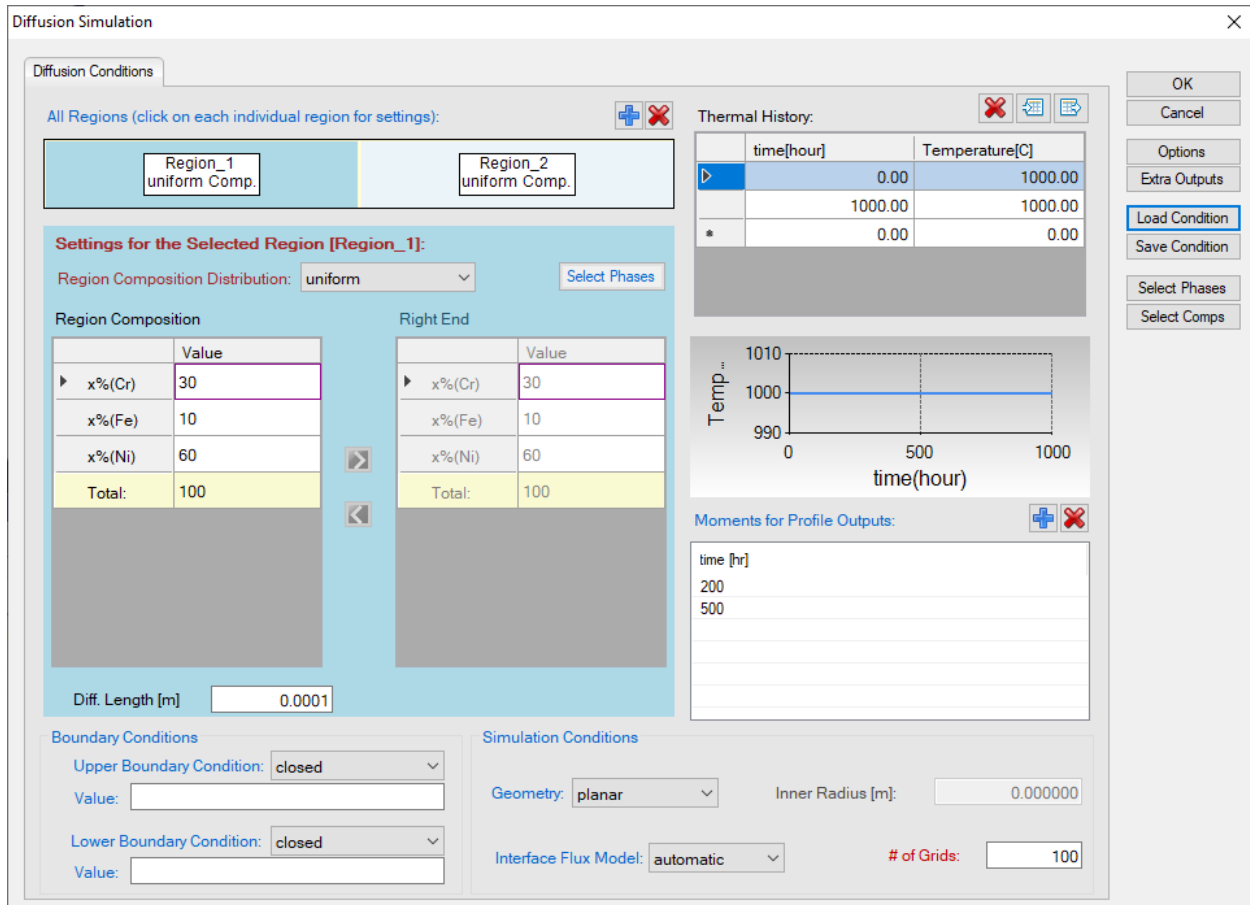

Figure 4.1.1: Setting of the simulation condition
- Click on "PanDiffusion->Diffusion Simulation" and set up the calculation condition as shown in Figure 4.1.1. First select Region Composition Distribution as Uniform, which means that composition in each region is uniform before diffusion. Click on Region_1 and set the composition of the left side of the diffusion couple as 30Cr-10Fe-60Ni (at%), then click on Region_2 and set the composition of the right side of the diffusion couple as 10Cr-20Fe-70Ni (at%) (which is not shown in Figure 4.1.1).
- The default output includes composition profiles of the initial and final stages. Composition profiles can also be plotted and listed in the table for intermediate times. By clicking the blue "+" next to the "Moments for Profile Outputs" composition profiles for number of intermediate stages can be outputted. As shown in Figure 4.1.1, those at 200 hour and 500 hour will be outputted. Click OK to start calculation.